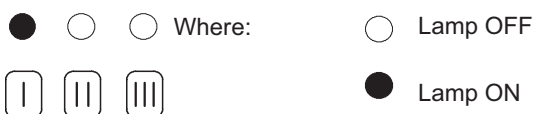

Figure 8.21
- The lamps F should give the indication as in Figure 8.21. If not, press the reset button repeatedly to obtain it.